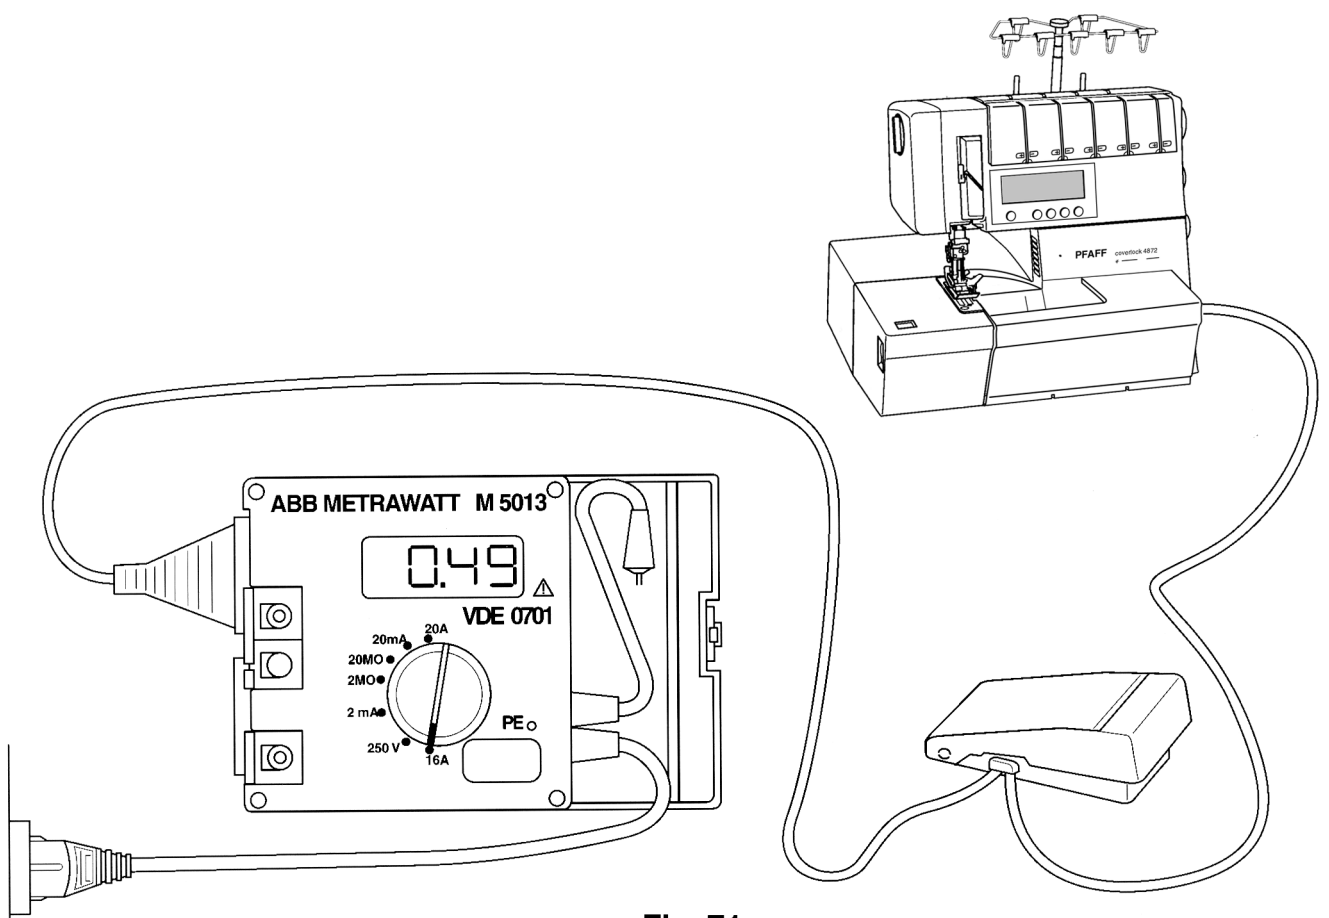

Fig. 71
- Set the switch for the measuring range at 16 A (figure 71).